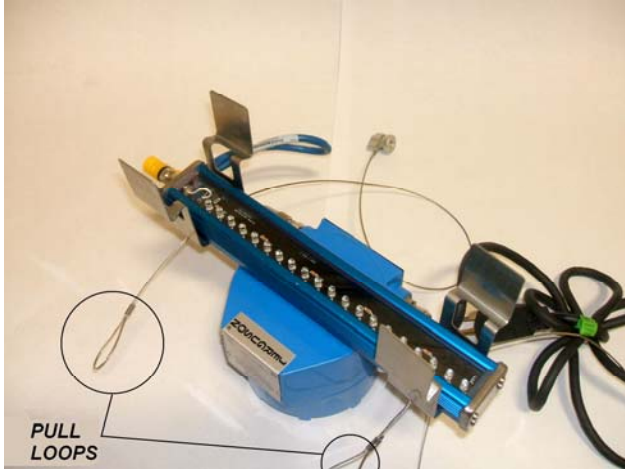

Figure 5
Step 3: While holding the top bracket in place, grab the thumb nut end of the cable, wrap around entire gauge and thread onto the stud until the bracket is secure. When wrapping the cable around the gauge, make sure to feed the cable above the bolt as shown above in Figure 5. Snug the cable and secure the thumb nut, but do not fully tighten the thumb nut at this time.